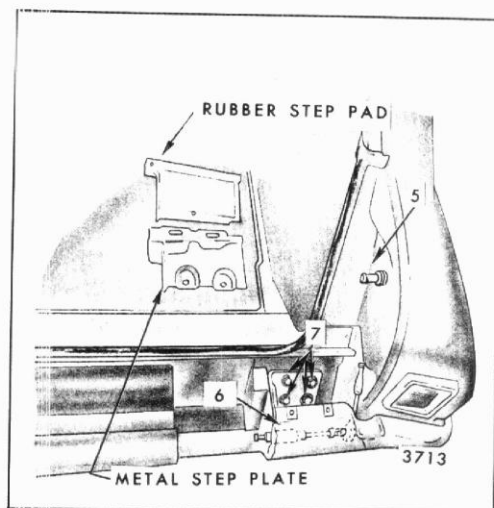

Fig. 9-37-Dual Acting Tail Gate Right Upper and Lower Lock Striker
5. Right Upper Lock Striker Assembly ("5", Figure 9-37) - Adjustable "forward" or "rearward", "up" or "down" and "laterally" by using spacers
- a. Lower Right Lock Striker - Adjustable "Forward" and "Rearward" ("6", Figure 9-37).
- b. Lower Right Lock Striker Support - Adjustable "Up", "Down" and "Sideways" ("7", Figure 9-37).
To gain access to lower right lock striker or striker support attaching bolts, open tail gate as a door and remove right step pad and step plate (Figure 9-37). To loosen lock striker attaching nut, use a 3/8" ratchet drive with a universal, 3" extension and 9/16" deep socket, as shown in Figure 9-37. To loosen striker support, loosen attaching bolts and move support up and down to make sure it is free.